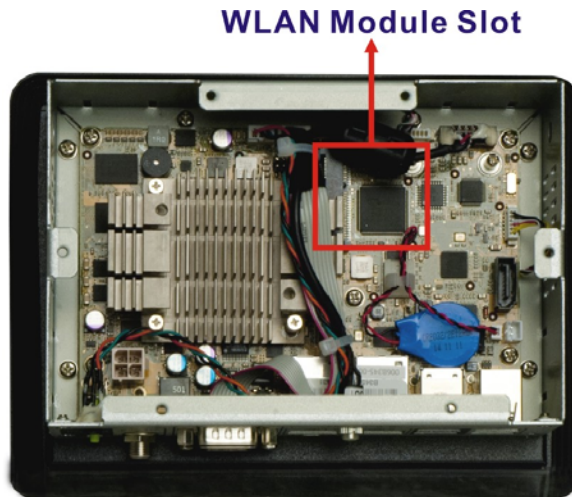

Figure 3-7: PCIe Mini Slot Location
Step 3: Locate the PCIe Mini slot (Figure 3-7).